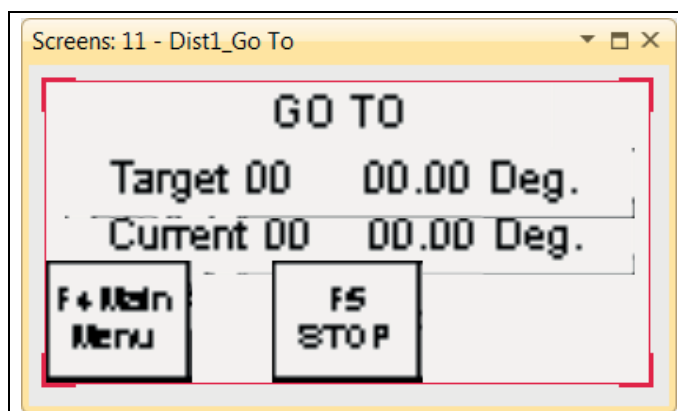

Figure 5AA
14. This is the main screen. The distributor number 1 is now homed and ready to use. Press **F6** or **F7** and enter the number of the spout position you wish to make the spout travel to. Upon pressing the **Enter**  key, following screen as in Figure 5AA will appear while the spout is moving into position.